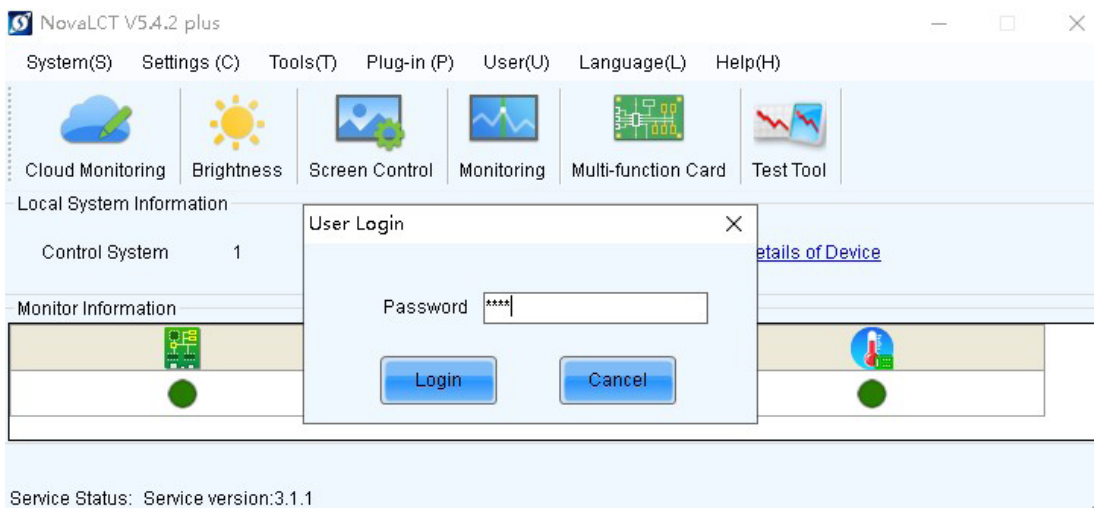

Figure 1-2
2. Enter the password and click Login. The default password is admin or 666. See Figure 1-2.